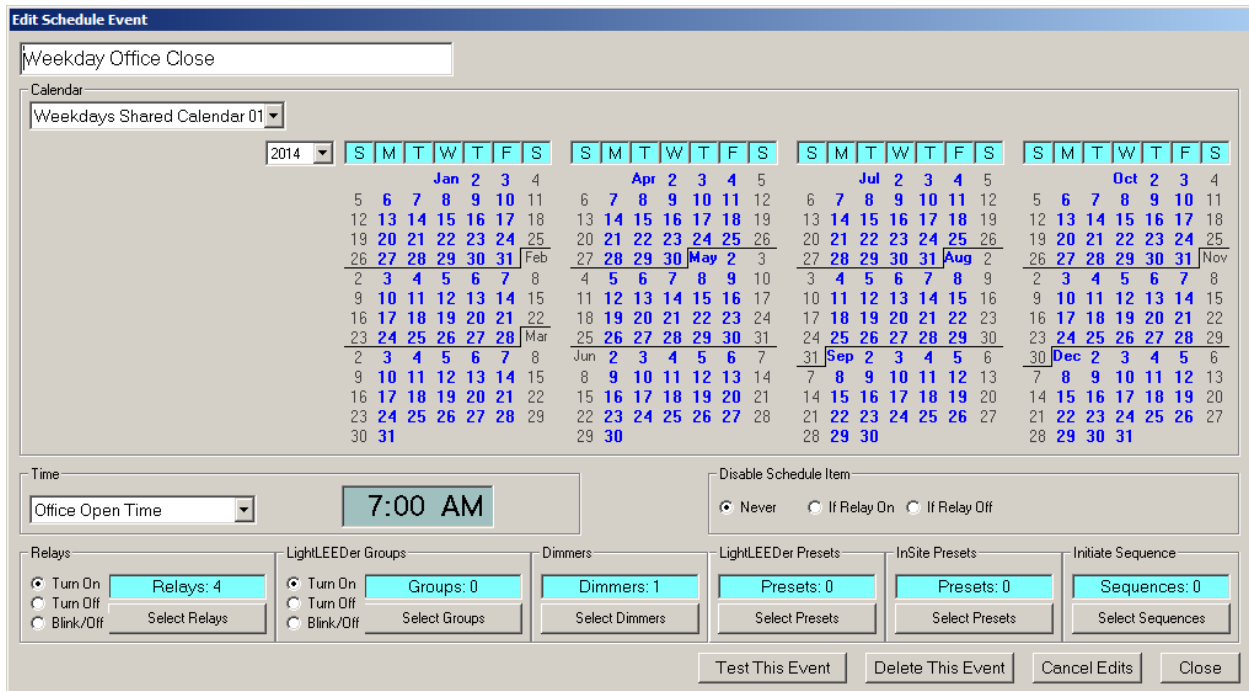

Figure 2.18 Edit Schedule Event
2. From the Insite Schedule, in the Schedule Events area, select the desired event as shown in figure 2.18, and then press Edit.